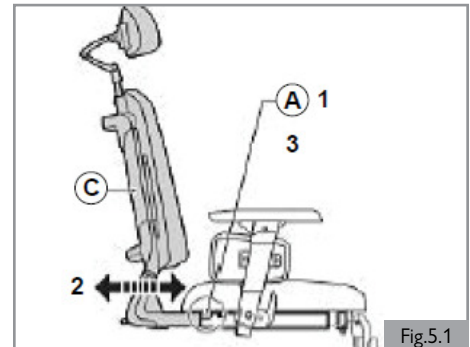

Fig.5.1
5.1 Pre-set backrest frame depth (Fig. 5.1 and 5.2)